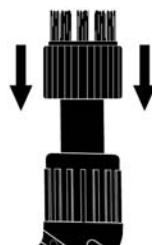

FIGURE 4
2. Press Utility Brush as far on to Steam Jet Nozzle as possible to ensure that it is properly sealed, to help prevent any steam leakage (FIGURE 4).